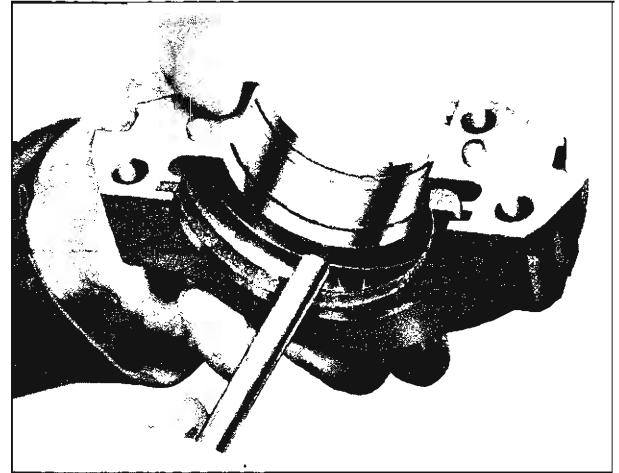

Fig. 47—Rolling Seal Into Groove
**NOTE:** When rolling the seal start at one end and roll it to the center of the groove. Then starting from the other end, again roll toward the center (fig. 47).